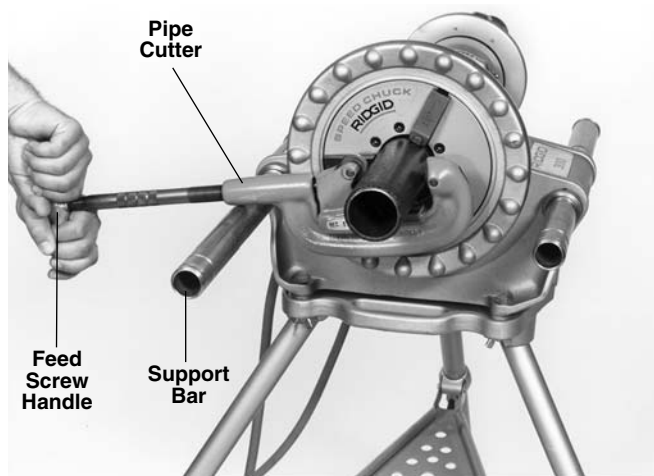

Figure 5 – Cutting Pipe with Hand Cutter
2. Align the cutter wheels with the mark on the pipe and rest the pipe cutter’s body on the left support bar (*Figure 5*). Hand-tighten the pipe cutter to the workpiece using the feedscrew handle while keeping the cutter wheels aligned with the mark.
5. Grasp the pipe cutter’s feedscrew handle with both hands (*Figure 5*) and depress and hold down the foot switch with the left foot.